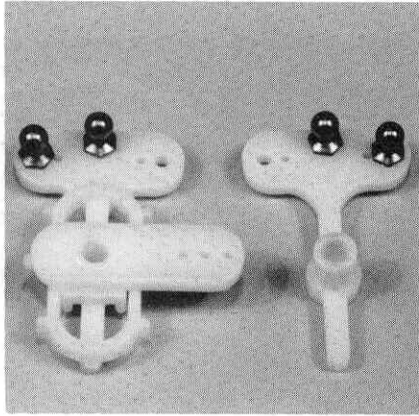

Fig. 21
- Fig. 21** And install it to the servo saver, as shown.